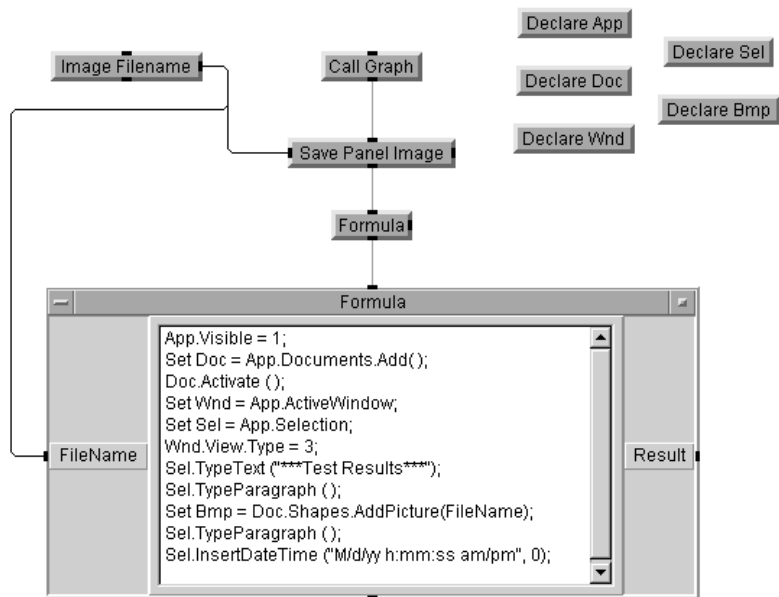

Figure 161 Adding the ActiveX Statements
- 8 Click **Device** ⇒ **Formula** and enter the statements shown in Figure 161, which are also described below. Rename input terminal **A** to **FileName**. Connect the data input and sequence input pins as shown in Figure 161.
In Figure 161, notice that you can nest property and method calls together with the Object's dot notation. Refer to ActiveX documentation to find the right properties in the target applications. You can use the properties and methods described in this chapter to begin generating test and measurement reports. The entries in the Formula object are as follows: